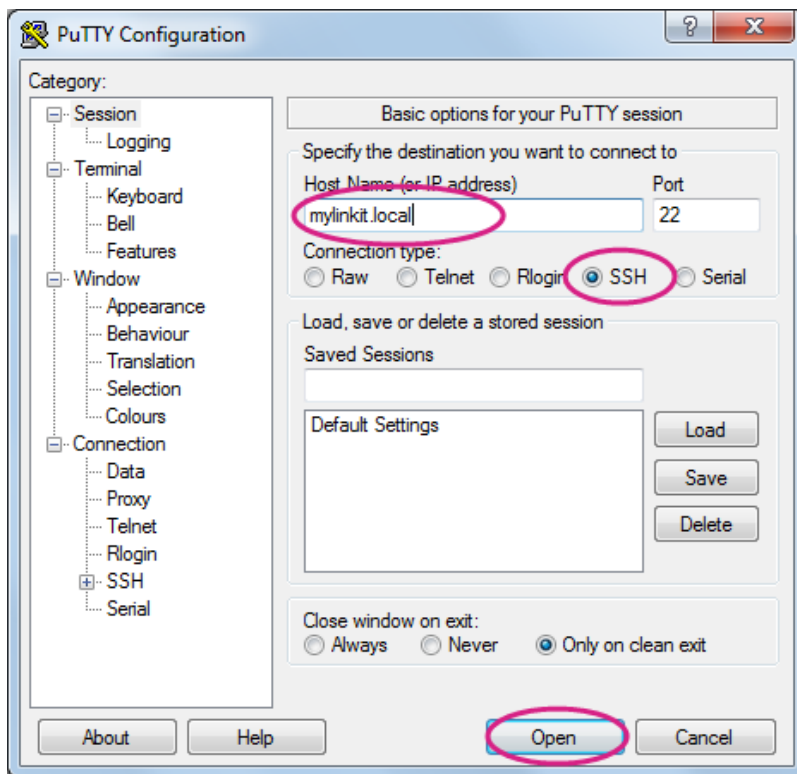

Figure 19 Using SSH in Windows PuTTY
- 2) Type **mylinkit.local** in the Host Name box, check the **SSH** radio button and click **Open** as shown in Figure 19.